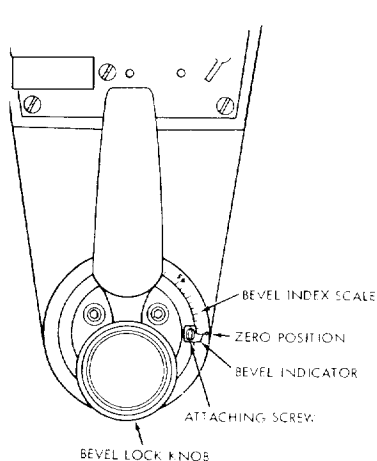

Figure 35
- The bevel indicator (figure 35) should read 0° on the bevel index scale.